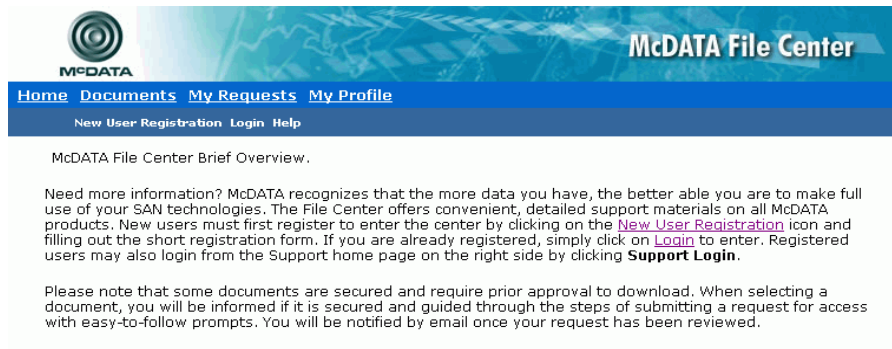

Figure 4-40 McDATA File Center Home Page
1. Obtain the new firmware version from the McDATA File Center. At a PC with Internet access, open the File Center home page (Figure 4-40). The uniform resource locator (URL) is <http://central.mcddata.com>.